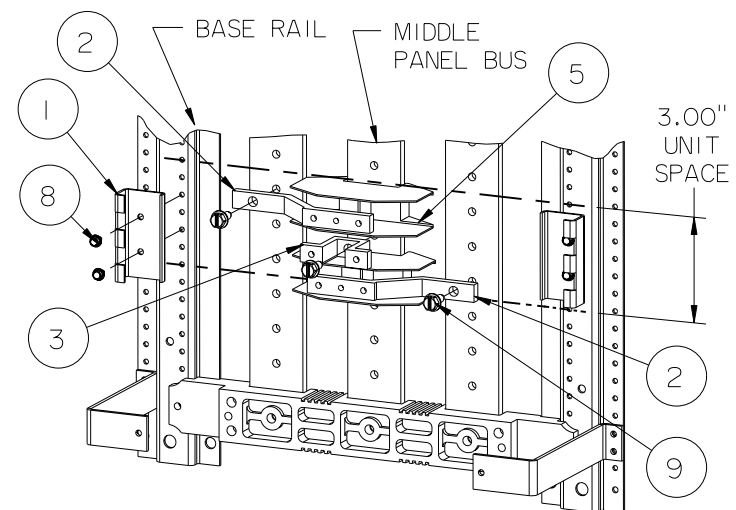

Figure 3
6. Refer to fig. 3. - Position the two breaker supports (item 1) on the base rails in the center of the 3" kit unit space as shown. Fasten them to the base rails using four 8-32 screws (item 8). Install the two ED branch 3 ϕ system barriers (item 5) at the upper and lower edges of the 3" kit unit space by inserting their pins completely into the corresponding holes in the middle panel bus. Position the two outer connectors (item 2) within the barriers, and the center connector (item 3) between the barriers. Fasten the connectors to the panel bus with three 1/4-20 X 5/8" screws (item 9).